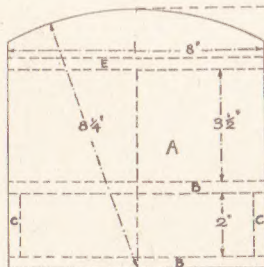

Fig. 1—Details of main back
On the outline of the back, shown in Fig. 1, the positions of the base and the top of the box shown as (B), and the pipe rack or shelf (E) is given by dotted lines. These dotted lines should be drawn across the back as a guide and two holes should be bored between each pair of lines to take the fixing screws. After the holes are made, they should be countersunk on the back of piece (A) so the heads of the screws lie flush and neat.
at the base of the piece. The parts (B) and (C) are cut in pairs, so having marked out and cut one piece, it can be used as a template for drawing round to outline the second piece. This assures accuracy of fit when the time comes for assembling the pieces. Note when gluing up that the parts all lie flush at the ends of the drawer compartment, this is seen in Fig. 1, and in the sketch of the finished article. This again simplifies the final cleaning on a flat surface of glasspaper.